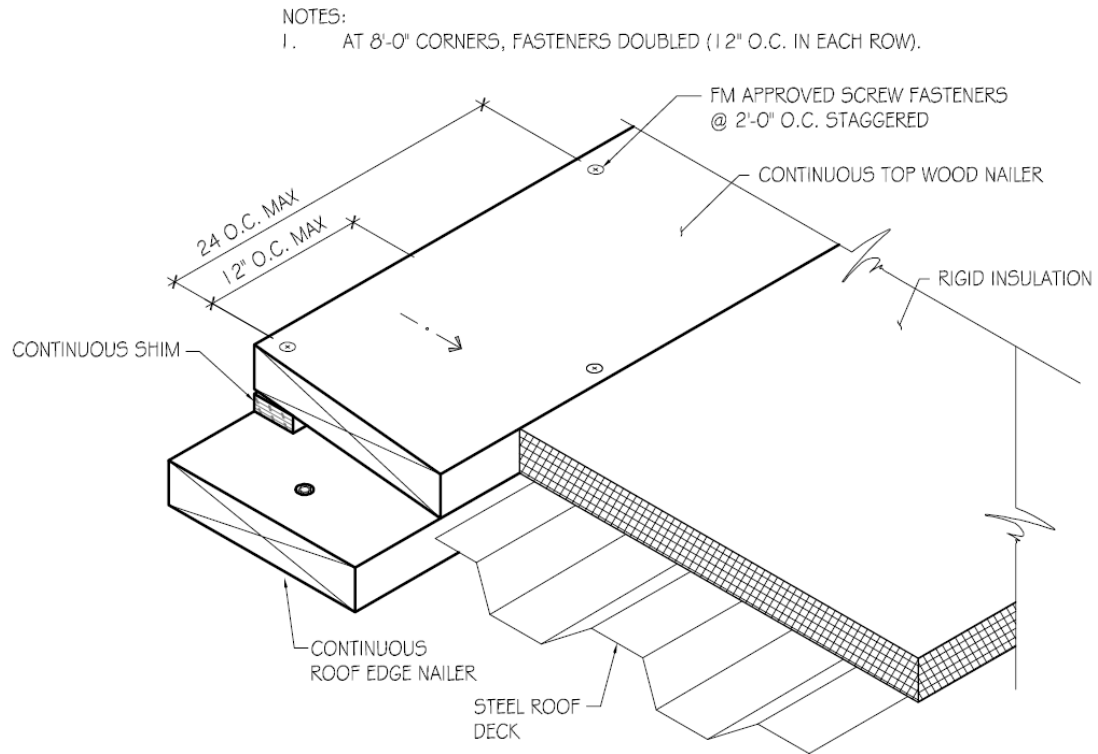

FIGURE 5
An alternate method may be used by installing 3/8 inch diameter anchor bolts spaced 32 inches apart. For outside corners, bolts are fastened 16 inches apart, 8 feet from each side of the corner. If additional wood nailers are needed, refer to **Figure 5** for attachment of additional wood nailers.
- When additional wood nailers are required, they must be attached with galvanized nails or lag screws that penetrate into the bottom nailer at 1-1/4 inches using a staggered fastening pattern in two rows at 24 inches apart as shown in **Figure 5**.
- Even though not emphasized in the Data Sheet, contractors should examine or question existing conditions to determine if existing wood nailers are attached in compliance with the above criteria. If not, existing wood nailers should be refastened using one of these options and additional wood nailers must be secured following **Figure 5**.